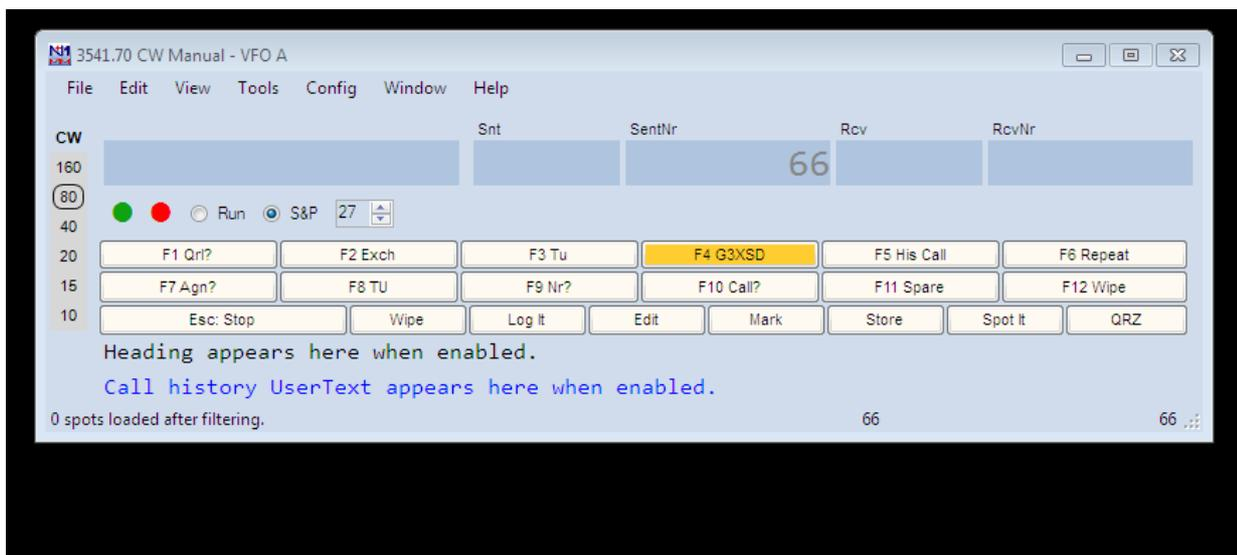

Fig 1.
3. You should now be back at Fig 1 above. Select 'config' and the result should be Fig 3 below.
Select as you feel appropriate. Click 'OK' when done and go back to Fig 1 repeated below:
You should end up back at Fig1. I recommend you go to the 'Window' tab and open a 'Log' window and a 'Bandmap' window.